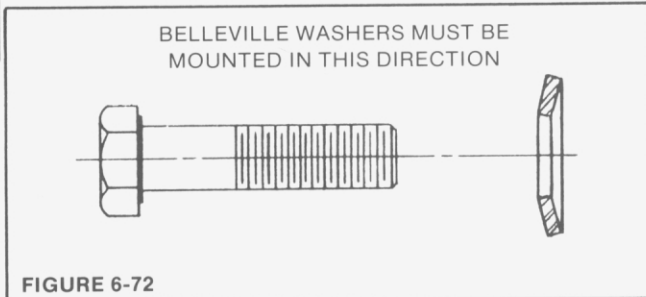
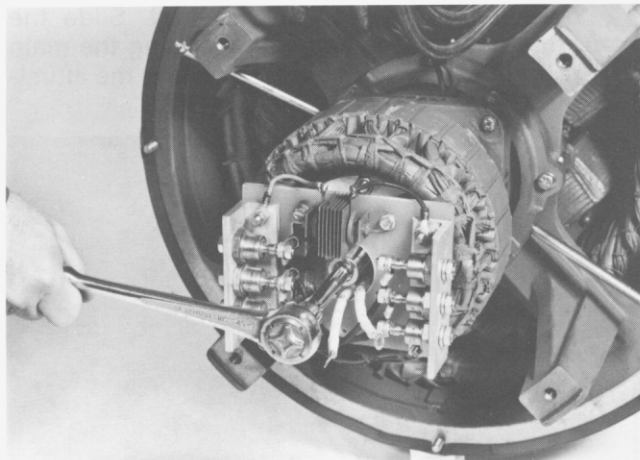
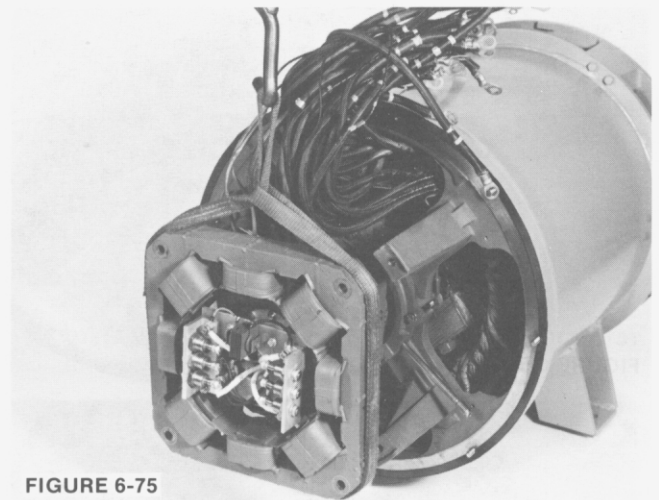

FIGURE 6-72
FIGURE 6-73
FIGURE 6-75
Insert the cap screw and belleville washer (Figure 6-72.) through the mounting hole in the aluminum standoff plate and secure to the shaft (Figure 6-73). Tighten the cap screw until the armature seats on the shaft. Torque to 84 lb-ft (114 N-m).
3. Position the exciter field leads at the left (9:00 o'clock) inboard position. Using a suitable lifting device, mount the exciter stator on the front end bracket mounting pads and align the mounting holes. (Figure 6-75.) Mount with the cap screws and belleville washers. (Figure 6-72.) Torque the cap screws to 60 ft-lb (81 N-m). Route and secure the exciter stator leads away from any moving parts.